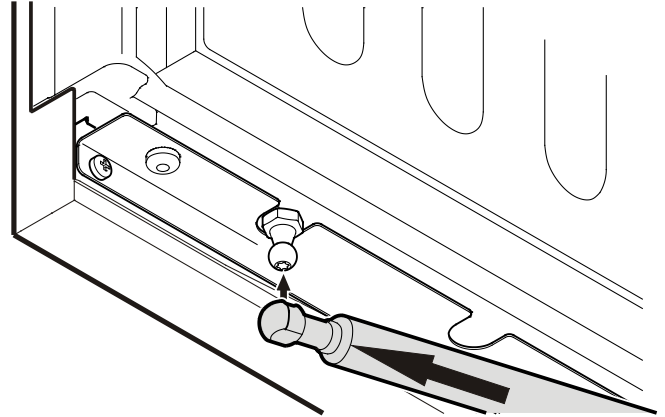

Figure 27
11. Extend the soft-stop cylinder and connect with the ball stud **Figure 27**.